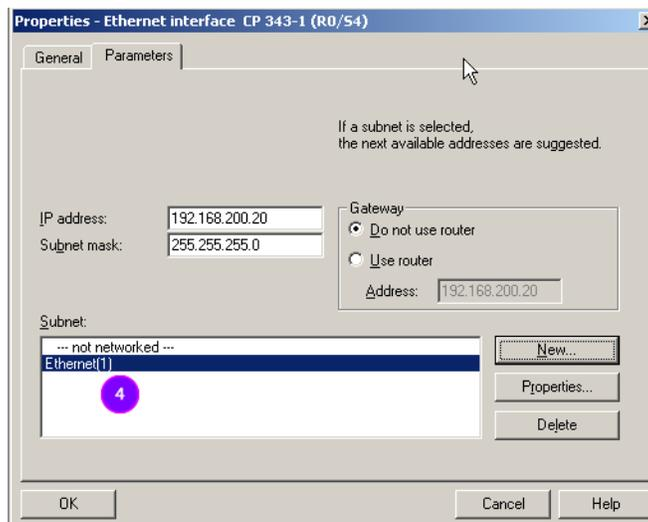

Figure 12.
4. Make sure the Ethernet network just created is selected. This identifies the network the CP343 will be connected to and activates the Ethernet port (Figure 12).